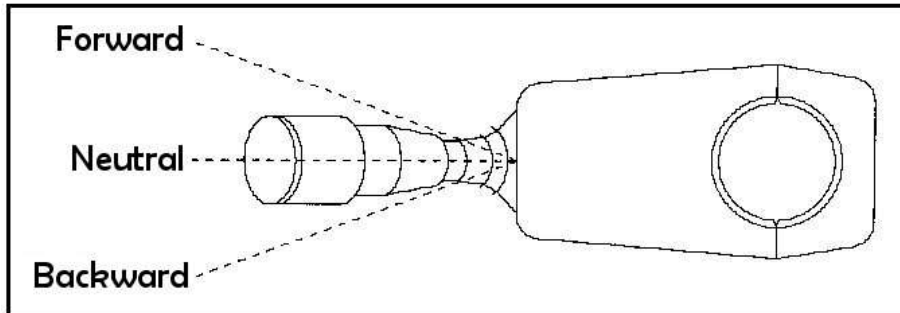

Figure 5.1 | Ride direction switch
1. Ensure that the ride direction switch on the left side of the steering wheel is in the neutral position (see Figure 5.1)